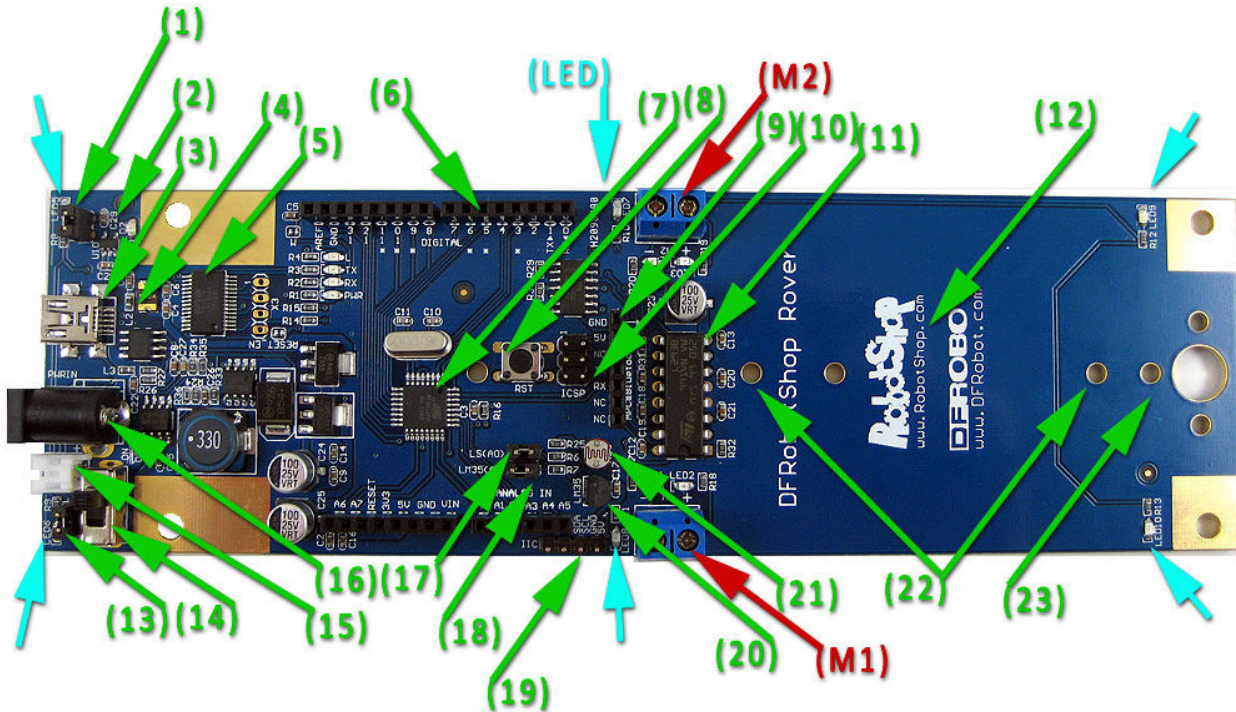

Figure 1: DFRobotShop Rover V1.5 Features
- (14) Motor On/ Off switch
- (15) Mini JST connector (powers board and motors)
- (16) Barrel connector (powers board and motors)
- (17) Light sensor jumper (connects light sensor to analog pin 0)
- (18) Temperature sensor jumper (connects temperature sensor to analog pin 1)
- (19) I2C connector
- (20) LM35 temperature sensor⁵
- (21) Light sensor⁴
- (22) 4xAA battery holder holes
- (23) Universal connection point
**Important note: jumper (1) in figure 1 should only be in place when using a LiPo battery connected to (15), otherwise remove.*
1. **USB**: Connecting a USB cable (sold separately) will power the microcontroller – not the motors. If you have L1_SEL jumper in place, it will also charge any LiPo battery connected to the white mini JST connector (15).
- a. **4x AA Battery Pack**: The DFRobotShop Rover includes a 4xAA battery pack which can be connected directly to the white power input at the back of the board. Both alkaline (1.5V) and rechargeable (1.2) batteries can be used, and the batteries power both the board and the motors. Remove jumper (1) in figure 1 when using the AA battery pack.